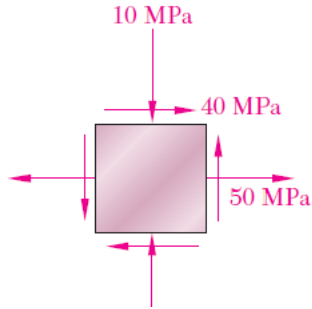

Fig 6
- a. For the given state of stress in Fig 6, (i) Draw the Mohr's circle, (ii) determine the principal planes, (iii) determine the principal stresses, (iv) determine the maximum shearing stress and the corresponding normal stress. [20]